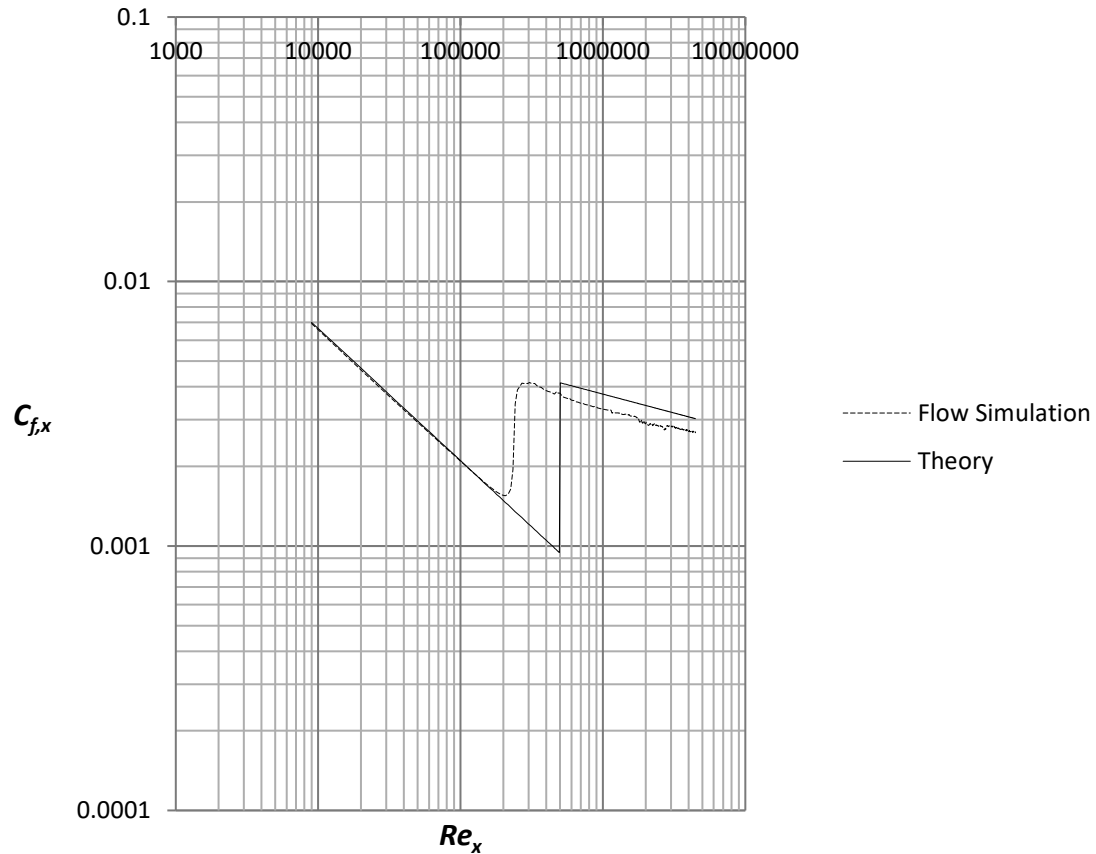

Figure 2.32 Flow Simulation (dashed line) and theoretical turbulent friction coefficients
32. Place the file “**graph 2.32**” on the desktop. Repeat step **24** and choose the sketch  $x = 0 - 0.9 \text{ m}$ , uncheck the box for **Velocity (X)** and check the box for **Shear Stress**. Rename the xy-plot to **Local Friction Coefficient for Laminar and Turbulent Boundary Layer**. An Excel file will open with figure 2.32. Figure 2.32 is showing the Flow Simulation is able to capture the local friction coefficient in the laminar region in the Reynolds number range 10,000 – 200,000. At  $Re = 200,000$  there is an abrupt increase in the friction coefficient caused by laminar to turbulent transition. In the turbulent region the friction coefficient is decreasing again but the local friction coefficient from Flow Simulation is significantly lower than empirical data.